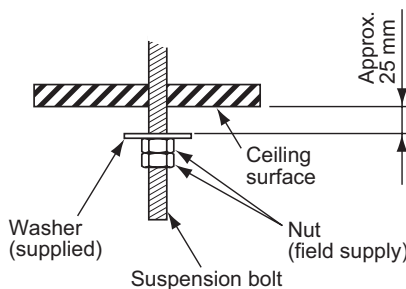

Fig. 2-64
- (7) Suspend the indoor unit as follows:
- a) Mount 1 washer and 2 hexagonal nuts on each suspension bolt (Fig. 2-64).